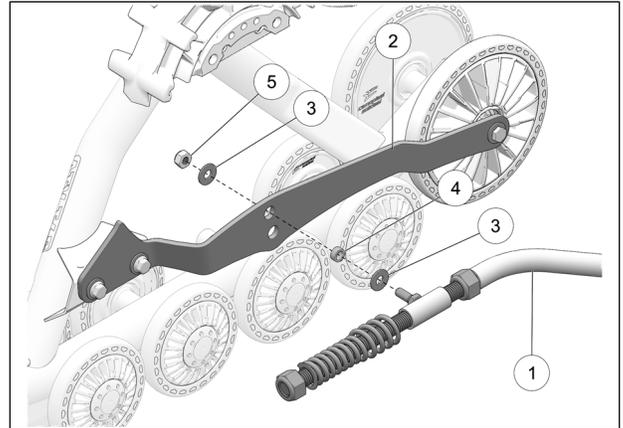

Fig. 6
7. Attach the rear stabilizing rod (1) to the undercarriage bracket (2) using washers (3), a bushing (4) and a nut (5). Choose the hole that does not create interference between the nylon lock nut (5) and the plastic drive sprocket. See Fig. 6